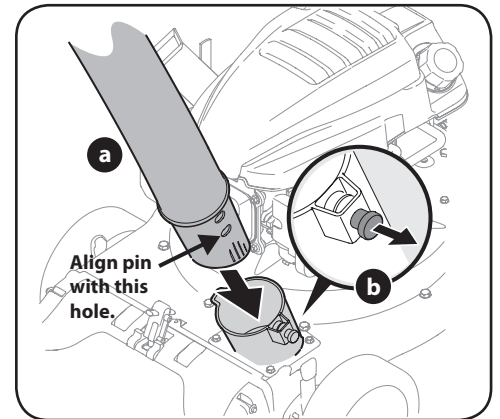

**Figure 3-3**
- Slip the starter rope into the rope guide. See Figure 3-3.